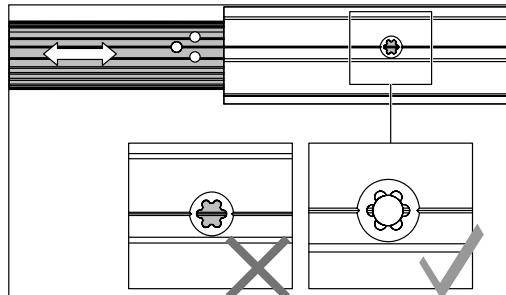

Fig. 24 Slide the lining profile along
- Insert the lining profile into the counter profile in such a way that the pre-drilled holes of the lining profile and the track are lined up with each other (Fig. 24).